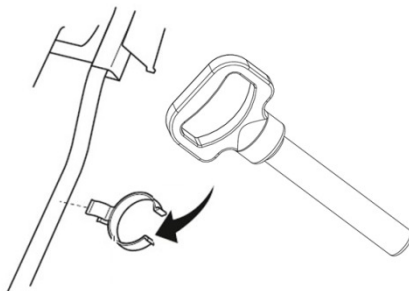

Fig.5
6. Mount the Paddle and Paddle holder (Fig.5)